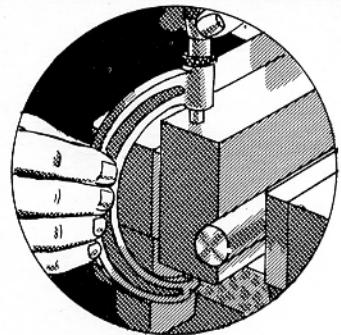

FIG. 288
6. Take a measurement with a micrometer at both ends of the work to determine whether or not the side just finished is parallel and to see how many thousandths must be removed to shape the work to size with the finishing tool (Fig. 288).